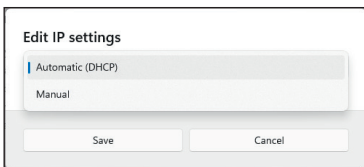

Fig. 6-8: Windows 11, **Edit IP Settings** dialog, settings hidden
- ☞ In this case, change the setting from "Automatic (DHCP)" to "Manual" (Fig. 6-8).